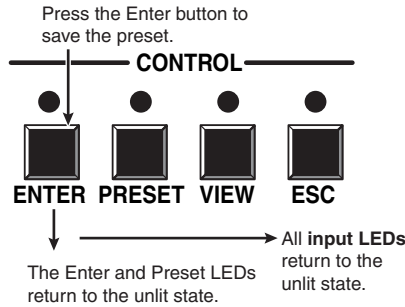

Figure 3-37 — Press the Enter button
- Press and release the Enter button (figure 3-37). The current configuration is now stored in memory location 13 (MVX 128 VGA A) or location 17 (MVX 1212 VGA A, MVX 168 VGA A, MVX 1616 VGA A).